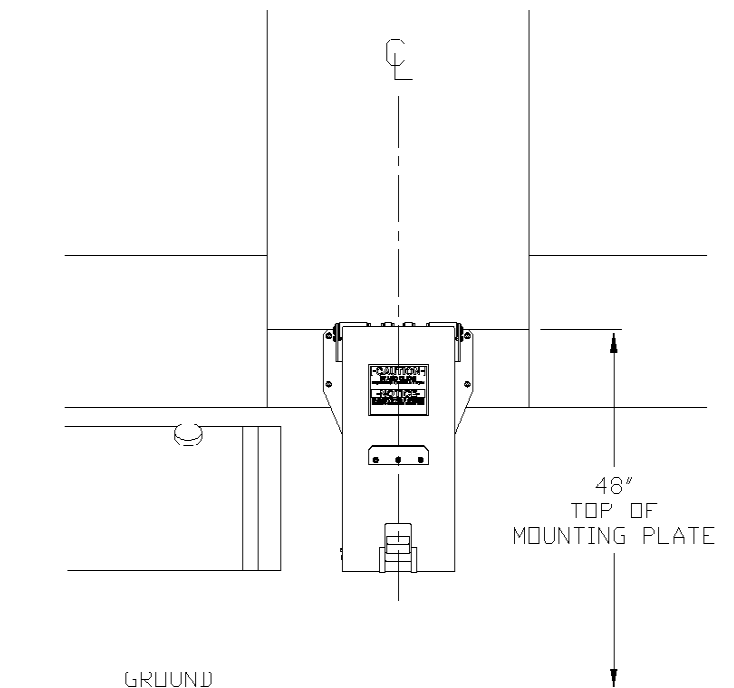

figure I-1
3. Position the lifter(s) on the sill of the truck per *figure I-1* and mounting height drawing (*Appendix A*) and tack weld in place. If installing with the use of a mounting plate kit for bolt-on applications, tack weld the mounting plate in place and attach the lifter using the studs, washers, and nuts supplied.